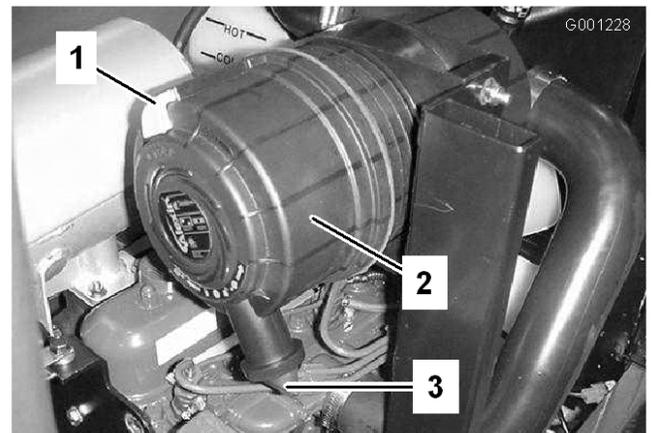

Figure 46
1. Pull the latch outward and rotate the air cleaner cover counter-clockwise (Figure 46).
2. Remove the cover from the air cleaner body (Figure 46).
8. Install the cover orienting the rubber outlet valve in a downward position—between approximately 5:00 to 7:00 when viewed from the end (Figure 46).